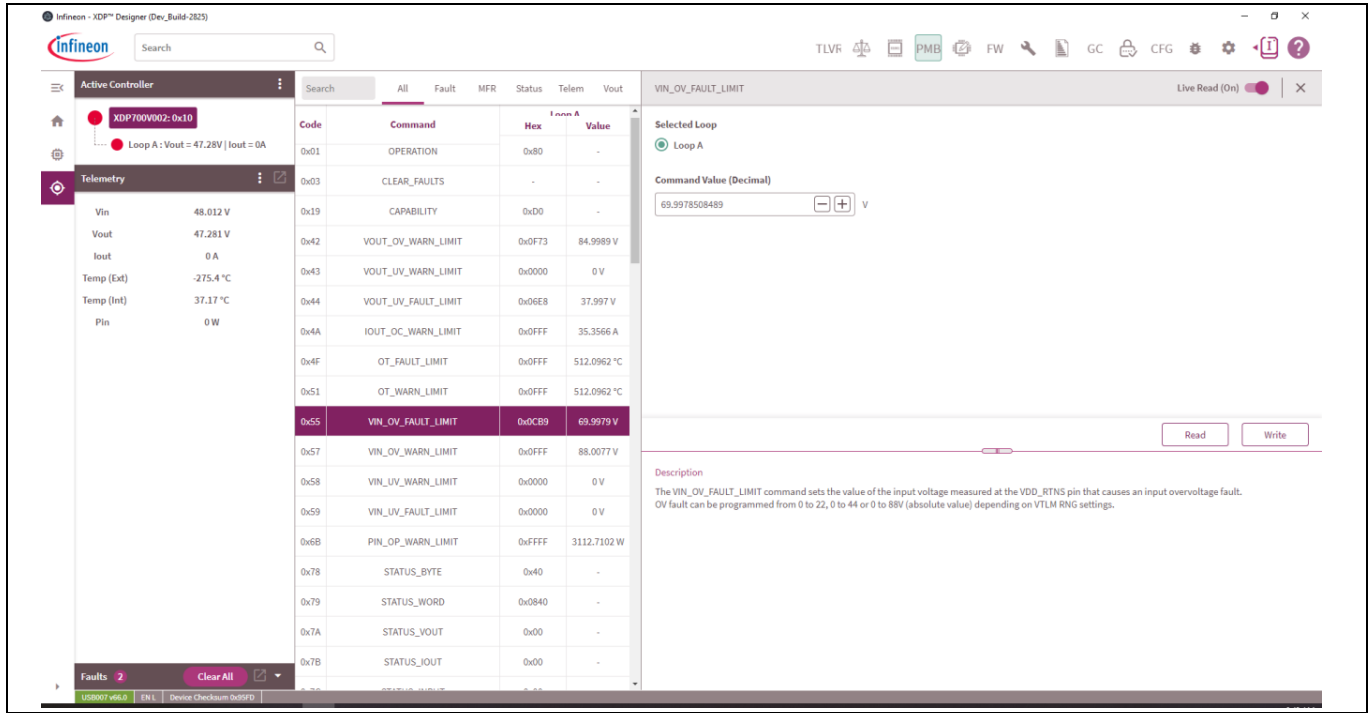

Figure 27 Editing VIN_OV_FAULT_LIMIT
2. Make the necessary changes, and then click **Write**. See Figure 27.